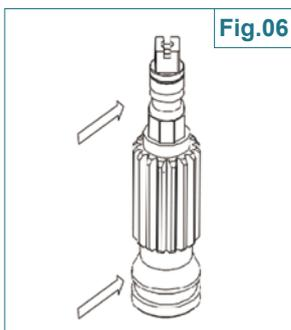

Fig.06
A.Pinion assembly (part No.23), Fig.06 and 07
- Grease the outside surface of the pinion on top and bottom as shown in Fig.06.